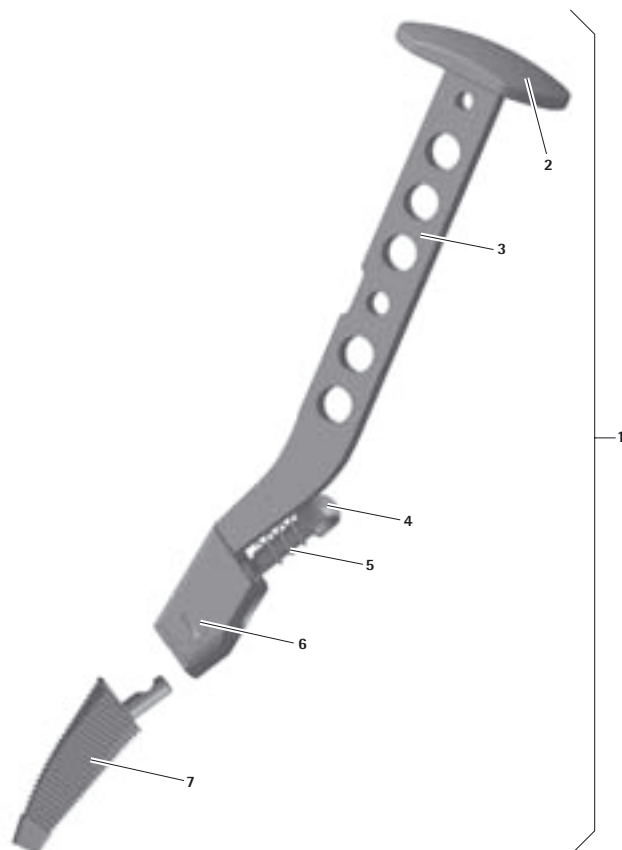

Fig. 1
- Slide rasp 7 into handle part 3, as shown in Fig. 1, making certain that the notch in the rasp connector points towards the pushbutton.